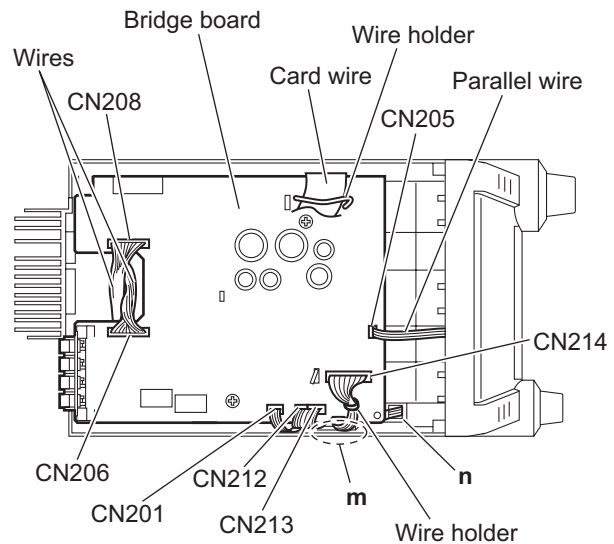

Fig.19
### 3.1.10 Removing the bridge board (See Figs.19 and 20)
- (1) From the top side of the main body, release the wire holder bundling the wire. (See Fig.19.)
- (2) Disconnect the wires from the connectors (CN206, CN208, CN214) on the bridge board. (See Fig.19.)
After connecting the wire to the connector CN214, fix the wire with the wire holder. (See Fig.19.)
- (3) Disconnect the parallel wires from the connectors (CN201, CN205, CN212, CN213) on the bridge board. (See Fig.19.)
- (4) Release the wire holder holding the card wire. (See Fig.19.)
- (5) Remove the spacer fixing the wire on the bridge board. (See Fig.19.)
- When reassembling, pass the wires through the sections (**m**, **n**) of the plastic chassis. (See Fig.19.)
**(See Figs.19, 21, 22, 24 and 25)**
- (3) Disconnect the parallel wires from the connectors (CN201, CN205, CN213) on the bridge board. (See Fig.19.)